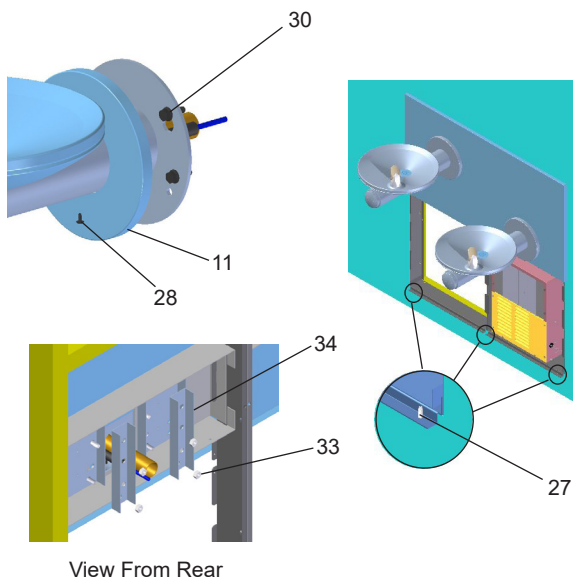
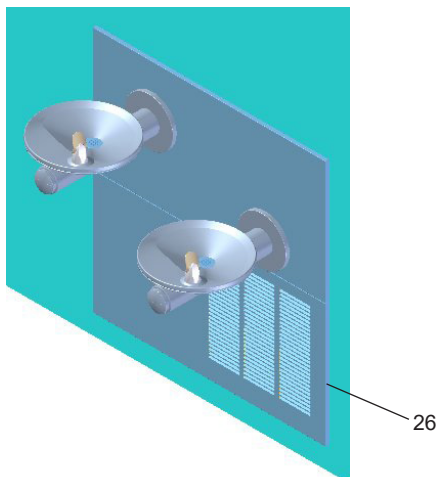

Figure 5 - Fountain Installation
Figure 6 - Lower Panel Installation
6. **Install** the fountain. Remove the screw (Item 28) from cover plate (Item 12) and slide cover plate toward basin. Mount the fountain to the upper panel and frame with (4) 5/16" x 1" (25mm) long bolts (Item 30), bracket (Item 34) and nuts (Item 33) provided. Tighten securely. **Brackets (Item 34) must be installed as shown to properly support fountain.** (See Fig. 5)
15. **Mount lower panel.** Loosen the three (3) #10-24 x 5/8" (16mm) screws (Item 27 - Figure 5) at frame bottom lip. Slide upper tongue of lower panel (Item 26 - Figure 6) under lower edge of already installed upper panel. Tighten previously loosened screws securely. (See Figure 6)